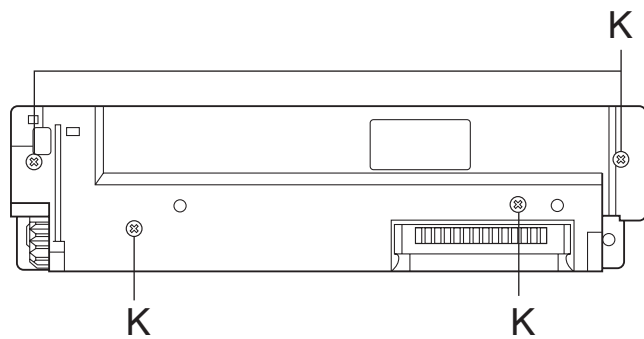

Fig.11
- (1) Remove the three screws **J**.
2.1.8 Removing the front board (See Figs.11 to 13)